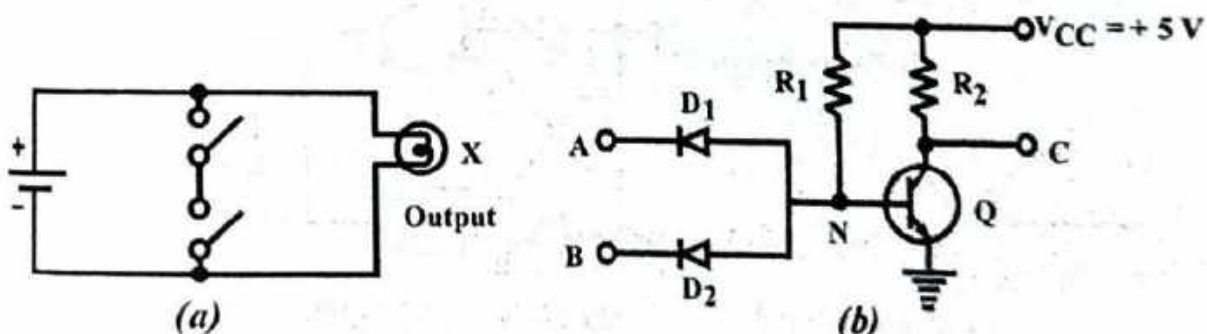

Fig. 5.13
The electrical circuit in fig. 5.13 shows of not a glow of lamp if switches A and B are closed the entire current of cell. Fig. 5.13 gives the electronic circuitry of diodes-transistor. If diodes the entire current D_1 and D_2 conduct. If $A = 1$, $B = 1$ or one of them conduct the point N become grounded or (0) transistor Q is not conducting as base N grounded. This cutting off of transistor Q will enhance the potential of $Y = V_{CC}$ i.e., logically meaning $A \cdot B = \overline{A \cdot B} = 0$.